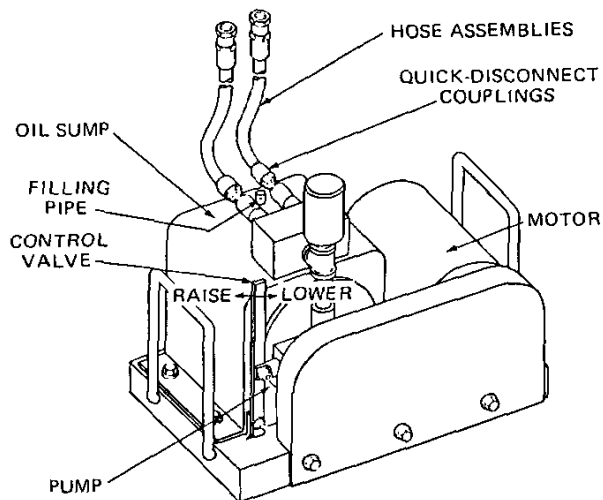

Figure 1
2. Move the control valve to the LOWER position to release oil (Figure 1).
12. To lower the tank, move the control valve to the LOWER position (Figure 1).